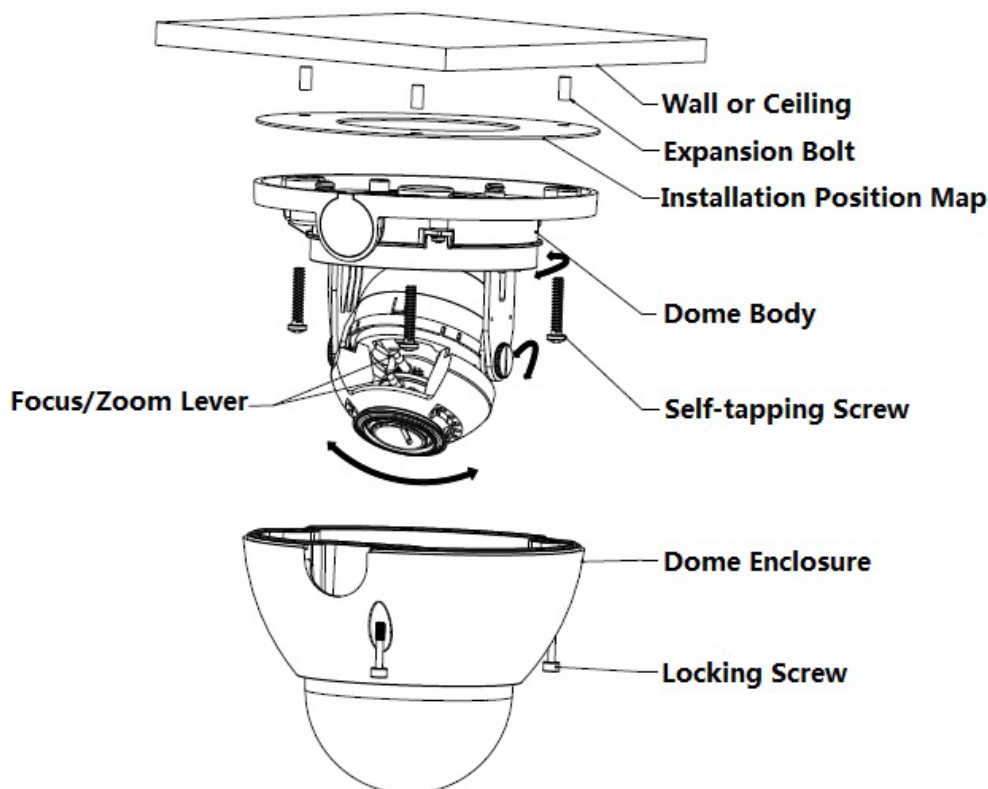

Figure 3-1
- If it is the motorized vari-focal camera, you can adjust the lens zoom and focus on the back-end HAVR device to make image clear, and then adjust the lens angle according to the direction shown in Figure 3-1. Tighten the screws to fix the lens after it is adjusted to a proper angle.
- If it is the manual vari-focal camera, you can use focus/zoom lever to adjust lens focal length to make image and tighten the lever after it displays image on the back-end HAVR device, then adjust the lens angle according to the direction shown in Figure 3-1. Tighten the screws to fix the lens after it is adjusted to a proper angle.